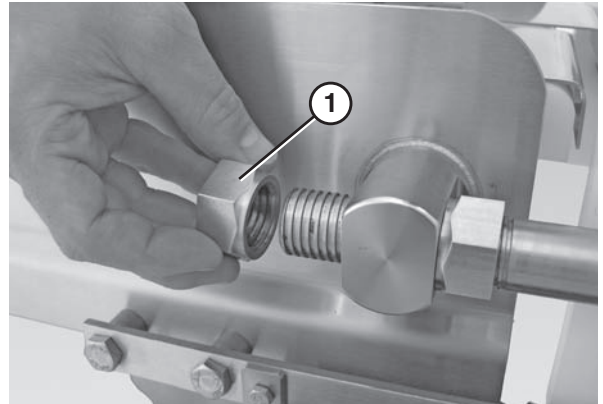

Figure 82
3. Remove the back nuts (**Figure 82, item 1**) on both discharge nose bar shafts.